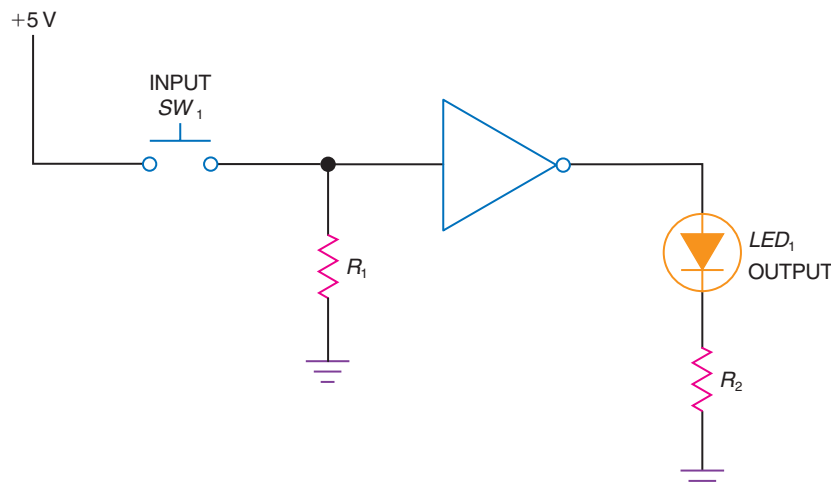

Fig. 5-45 Interfacing problem.
- 5-32. Refer to Fig. 5-45. Component R_1 is called a _____ resistor.
- 5-33. Refer to Fig. 5-45. Closing SW_1 causes the input to the inverter to go _____ (HIGH, LOW) and the LED _____ (goes out, lights).
- 5-34. Refer to Fig. 5-45. With SW_1 open, a _____ (HIGH, LOW) appears at the input of the inverter causing the output LED to _____ (go out, light).